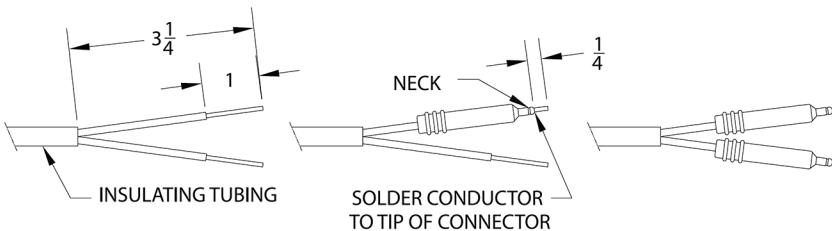

Figure 2. High Voltage Cable Termination
- B. Connect static bar by cutting the high voltage cable to length, terminating the leads, and connecting to the power supply: (see to Figure 2)